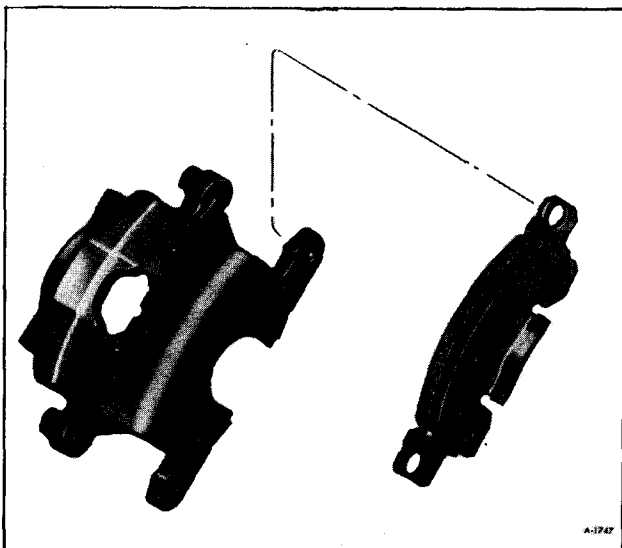

Figure 57—Installing Outboard Shoe
5. Insert new outboard shoe into caliper with no clearance between shoe and caliper face. (figure 57)